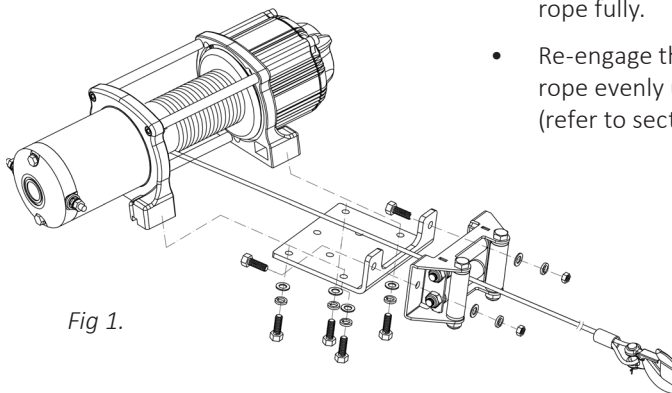

Fig 1.
- The winch must be mounted with the direction of pull perpendicular to the mounting bolt fixings. See Fig 1.